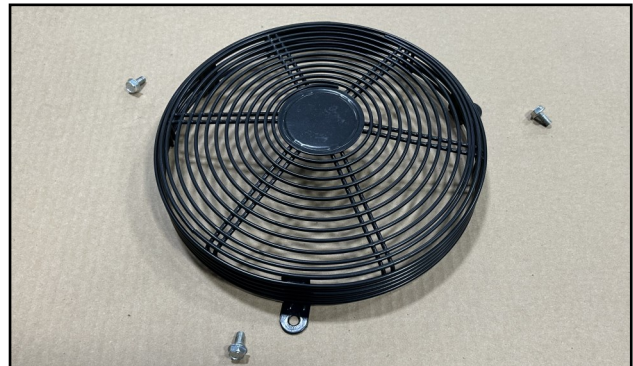

Fig. 1.7 (Flywheel Finger Guard)
- 1.7 See fig. 1.7. Remove and discard the metal or plastic flywheel finger guard and the 3 OEM screws. New M6x1.0 x 12mm long flanged hex head screws are provided for use in a later step (Ref.: approximately 1/2" long).